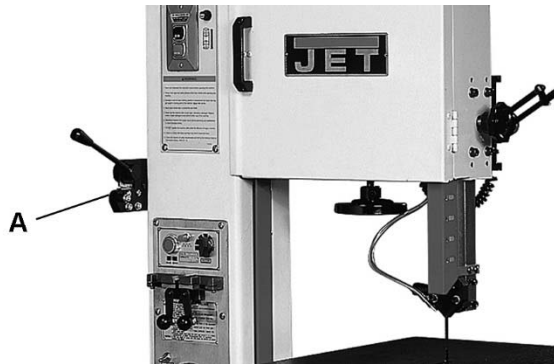

Figure 1
3. Remove two socket head cap screws from left side of vertical column. Attach shear assembly (A, Figure 1) to column by inserting hex cap screws.